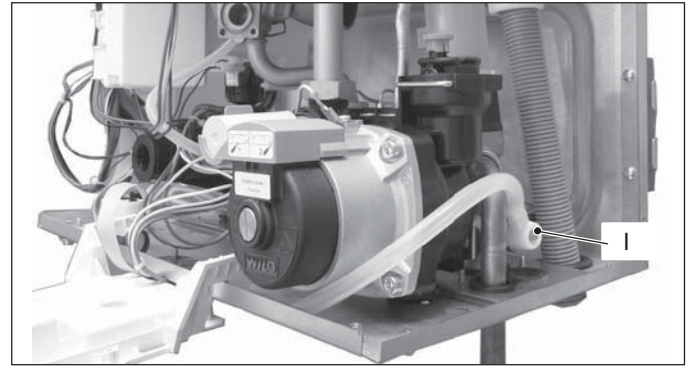
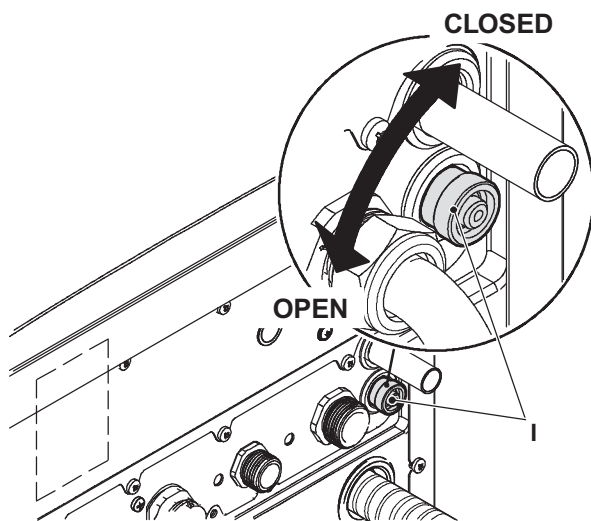

Figure 2.12
Figure 2.11
- 3 Open the drain tap I (Figure 2.11 combi or Figure 2.12 only c.h.) until the boiler is completely emptied.